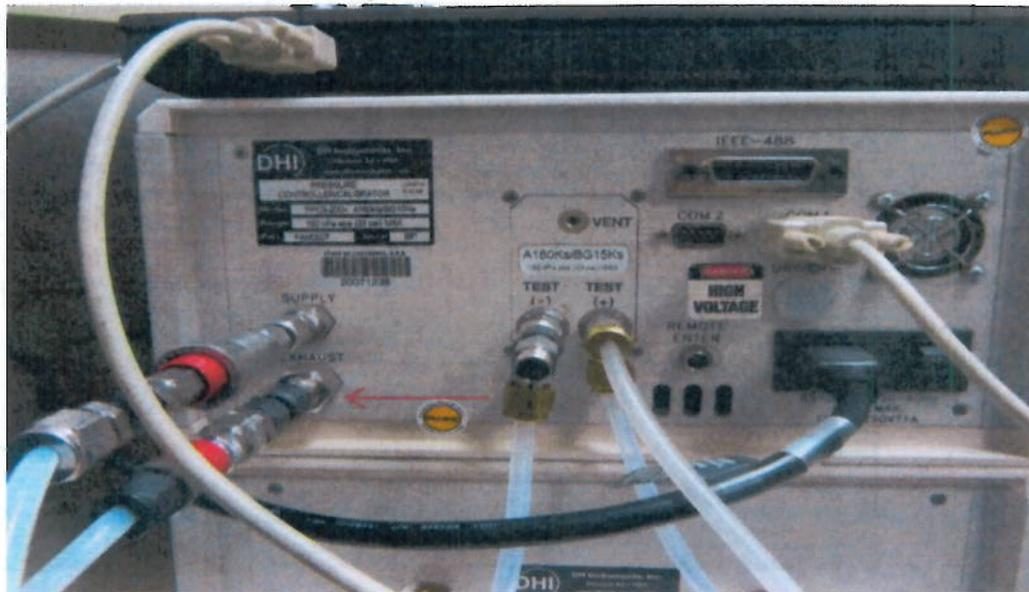

Figure 3
- 11.3 Connect the vacuum line from the vacuum pump to the “Exhaust” port of the reference pressure controller. See Figure 3.